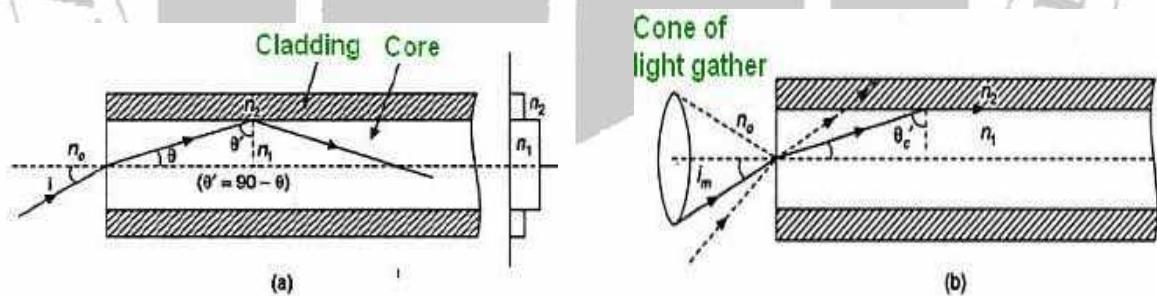

Figure 3
Therefore, for light to be propagated within the core of optical fiber as guided wave, the angle of incidence at core-cladding interface should be greater than  $\theta'_c$ . As  $i$  increases,  $\theta$  increases and so  $\theta'$  decreases. Therefore, there is maximum value of angle of incidence beyond which, it does not propagate rather it is refracted in to cladding medium (fig: 3(b)). This maximum value of  $i$  say  $i_m$  is called maximum angle of acceptance and  $n_0 \sin i_m$  is termed as the numerical aperture (NA).